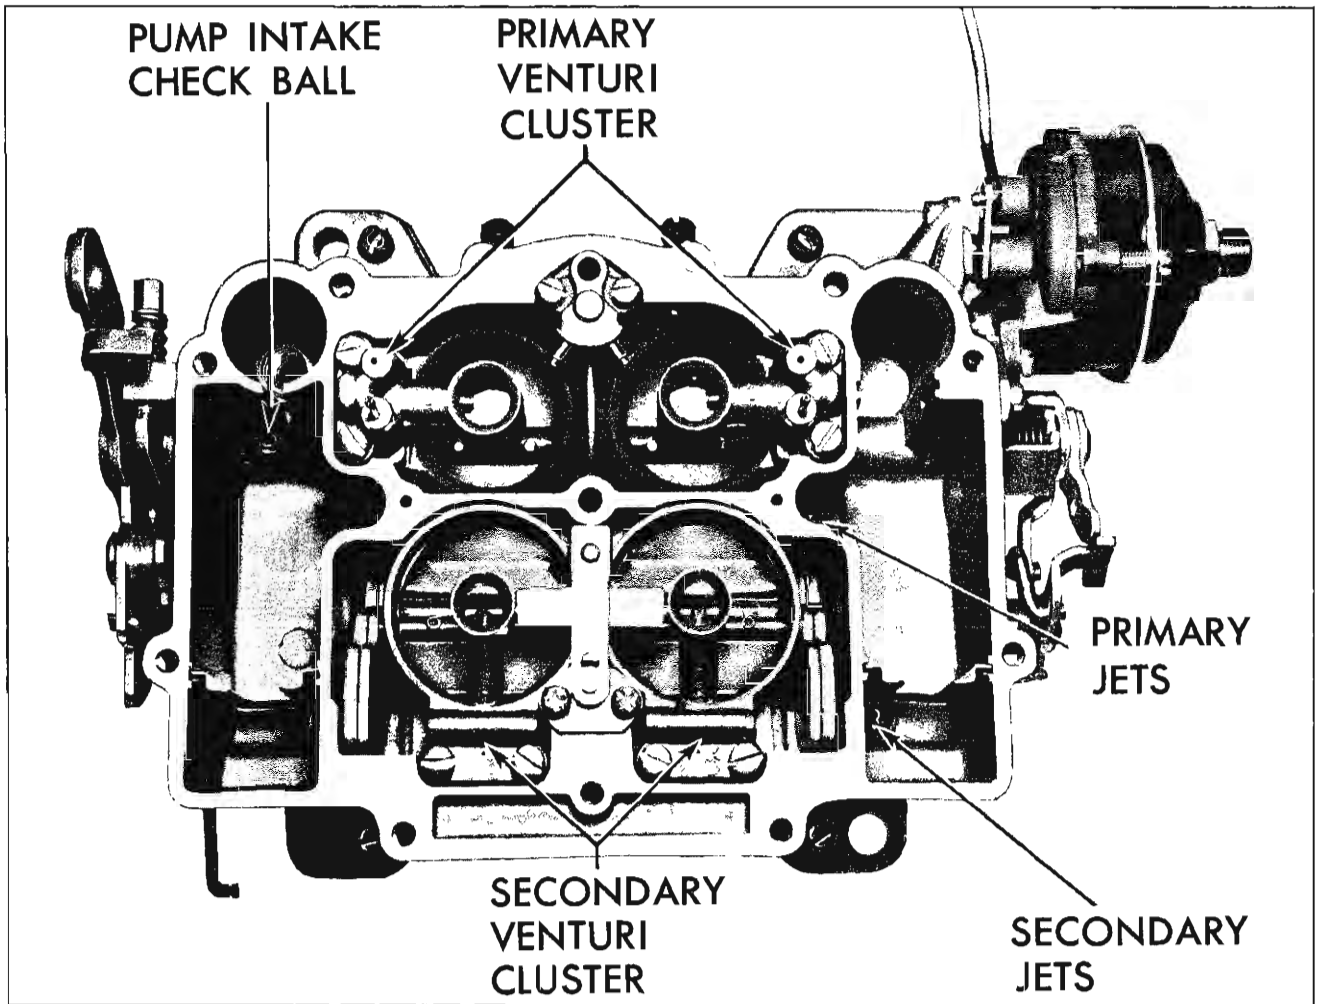

Fig. 87—Body Components
5. Install pump intake check ball and ball seat assembly with a new gasket (fig. 87). Install primary and secondary metering jets and tighten securely.